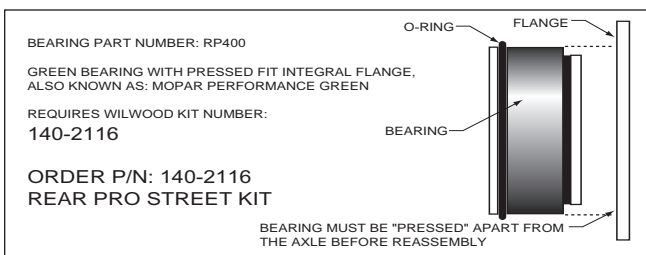

Figure 1. Press Fit Flange Bearing Configuration
**NOTE:** Before any tear-down or disassembly begins, it is important to verify which bearing you have. There are two types of "Green Bearings" being supplied by axle manufacturers, each one requires a specific Wilwood rear disc brake kit for proper installation. Your setup should look like Figure 1 on the left, otherwise you have the wrong kit.